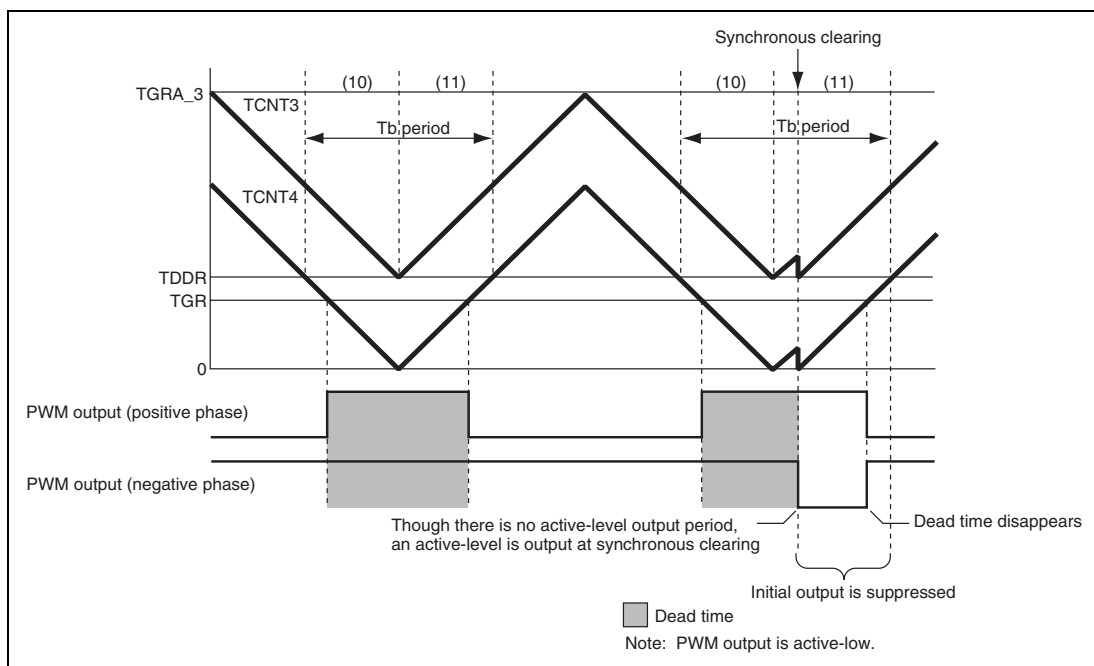

Figure 11.138 Example of Synchronous Clearing under Condition (2)
Condition (2) In the initial output suppression periods (10) and (11), synchronous clearing is performed while $TGRB_3 \leq TDDR$, $TGRA_4 \leq TDDR$, or $TGRB_4 \leq TDDR$ is satisfied (figure 11.138).